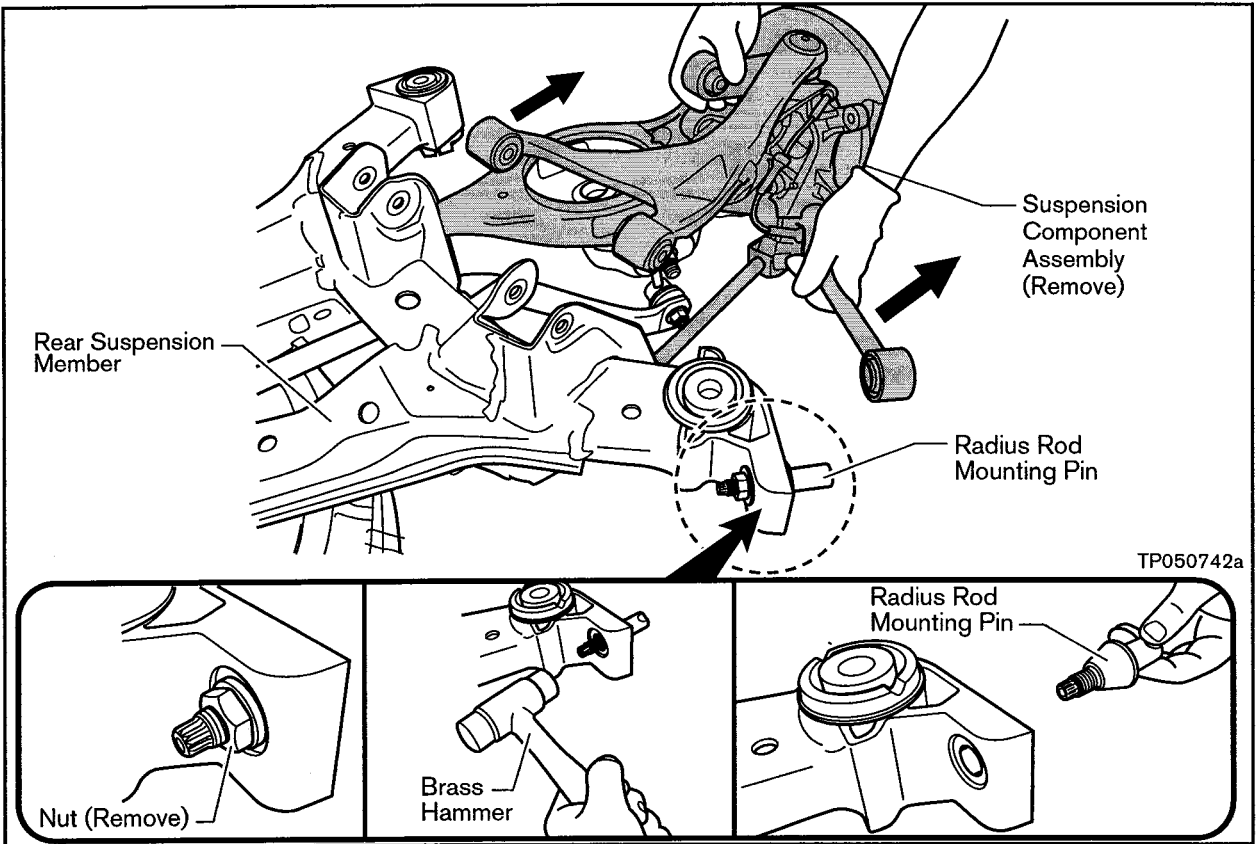

Figure B4
- f. Pull the suspension component assemblies away from the suspension member as shown in Figure B4. Then remove the radius rod mounting pin as shown in Figure B4.